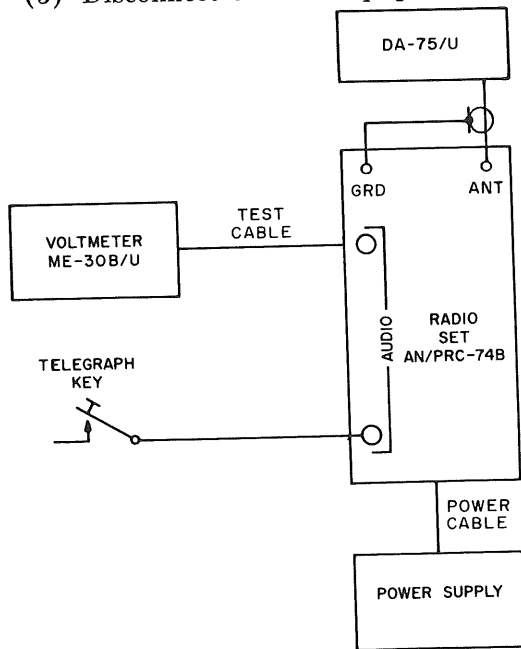

Figure 5-8. Sidetone operation.
(1) Connect the equipment as shown in figure 5-8.
(2) Set the power supply to 12 volts.